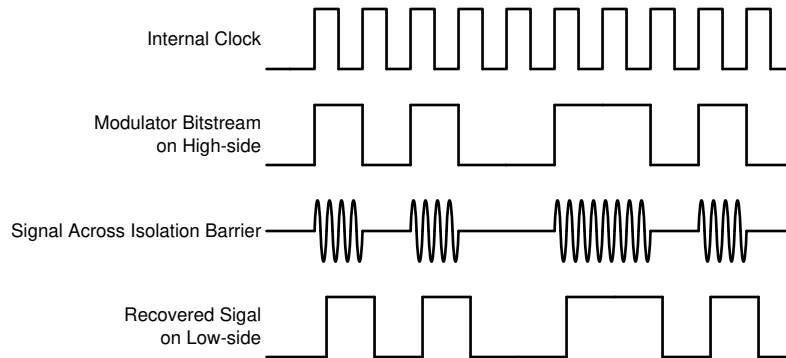

Figure 7-1. OOK-Based Modulation Scheme
The AMC1300B-Q1 uses an on-off keying (OOK) modulation scheme, as shown in Figure 7-1, to transmit the modulator output bitstream across the SiO₂-based isolation barrier. The transmit driver (TX) shown in the *Functional Block Diagram* transmits an internally-generated, high-frequency carrier across the isolation barrier to represent a digital *one* and does not send a signal to represent a digital *zero*. The nominal frequency of the carrier used inside the AMC1300B-Q1 is 480 MHz.